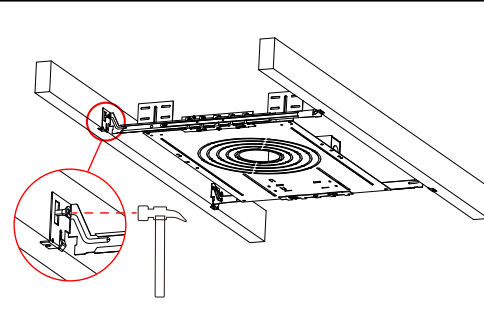

Figure 11
3. For steel studs, use self-tapping sheet metal screws in place of nails. Using a hammer, secure the bar hangers to the wood joist with the nail. Secure at all four locations. (Fig.11)